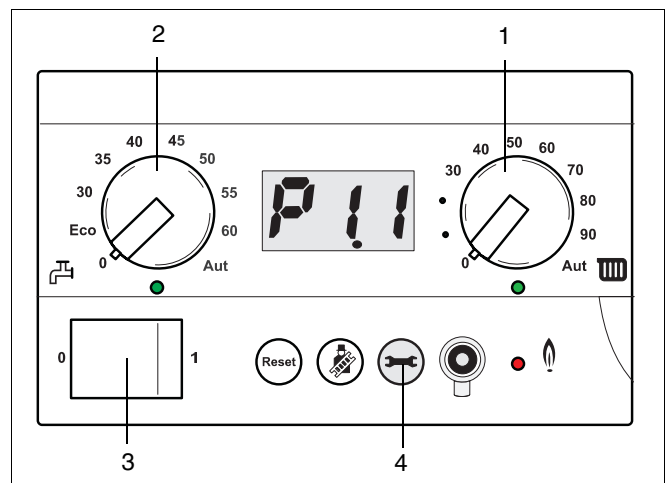

fig. 28 Control panel
- Adjust the knobs for central heating (fig. 28, item 1) and domestic hot water (fig. 28, item 2) to '0'.
- Set the switch on the BC10 to "1" (see fig. 28, item 3)
- Press the service button (fig. 28, item 4) until the system pressure (for example P1.1) appears in the display.